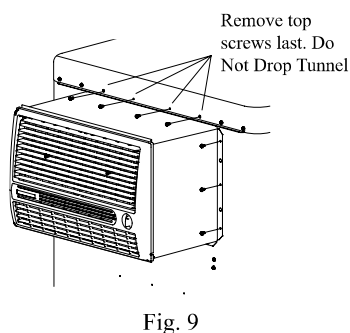

Fig. 9
2. Remove the top 4 middle screws of the top pan while holding the tunnel in place (Fig 9). Be careful not to drop the tunnel, or damage to the electric cords could occur. You may need to loosen other screws in the top pan to make it easier to remove the tunnel.